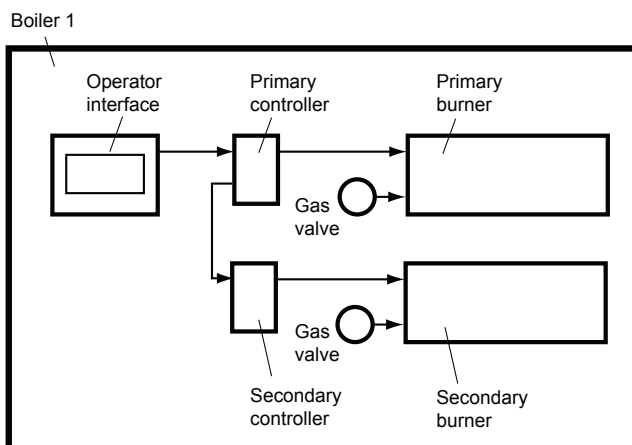

**Fig. 98 – High and Low Fire Adjustments on Gas Valve - BNT1000 and BNT1200**
1. On the gas valve for the Primary burner on the boiler, locate the adjustments for the high fire CO2 and low fire CO2. See Fig. 98 and 99. Table 17 lists the CO2 readings you should see at high fire and low fire.